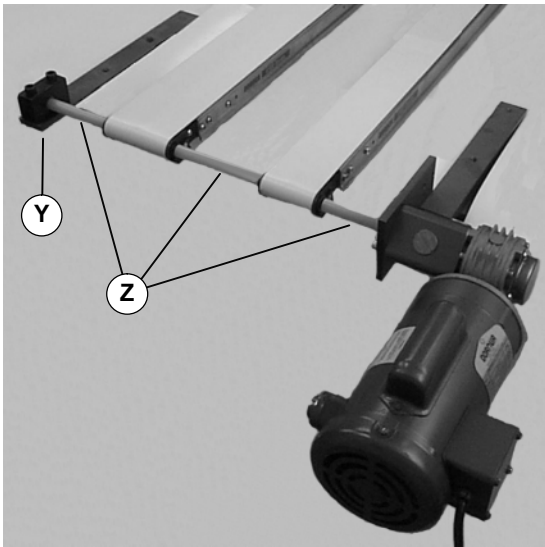

Figure 17
1. Disassemble the support (Y of Figure 17) and remove the hex shaft and shaft guard sections (Z).
4. Grease bearing with one (1) pump from a manual grease gun. Do not over-lubricate.
6. Re-assemble hex shaft with guards and support (Y of Figure 17).
1. Disassemble support (Y of Figure 17) and remove the hex shaft and shaft guard sections (Z).